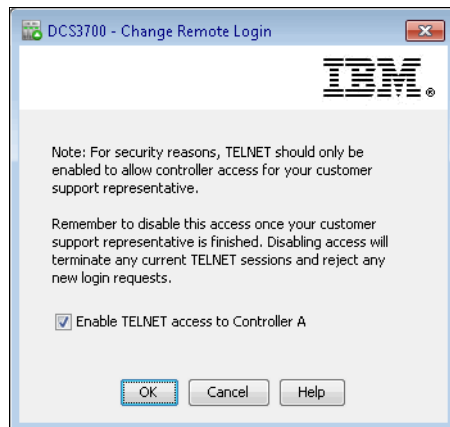

Figure 9-20 Remote login set
1. Select the controller in the Physical pane, right-click it, and select **Remote Login** in the menu. The window that is shown in Figure 9-20 opens.